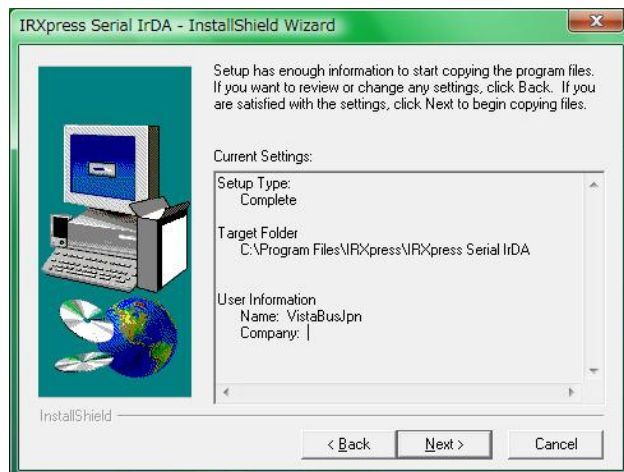

Figure 5.27
5. If all detail in Figure 5.27 is okay, click **Next >** button. The below screen appears.